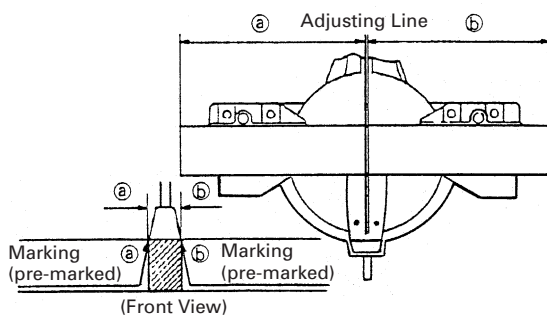

Fig. 21
- (1) As shown in Fig. 21 the width of the saw blade is the width of the cut. Therefore, slide the workpiece to the right (viewed from the operator's position) when length ⑥ is desired, or to the left when length ① is desired.